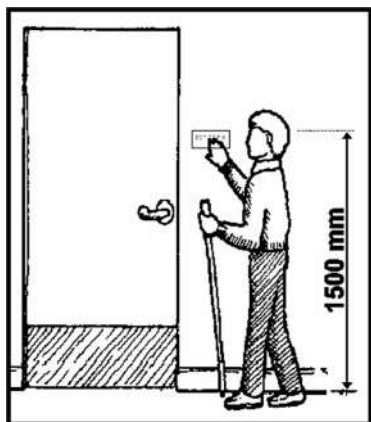

Figure 5.5 Room signage provided towards the latch side of the door
- Numbers/nameplates etc. to be in Braille & raised alphabets by 1-1.5mm; for adults Braille signage should be placed on wall next to door latch side between 1400mm-1600mm height and for children at 1000mm height from floor level **(Figure 5.5 & Photo 5.6)**